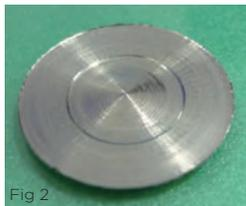

Fig 2
- Install a cover to prevent injury from possible chip fly-out (see disc-shaped chip in Figure 2) when through drilling on a lathe.